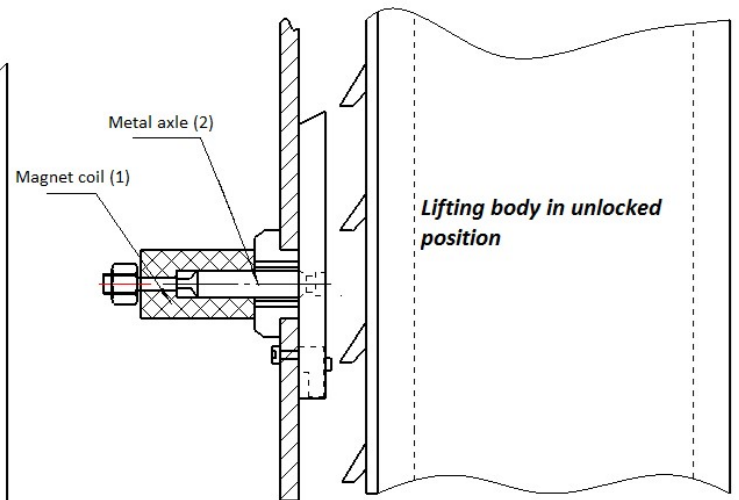

Fig.22
Press the LOWERING-button (3, fig.22), first the lift raises a little bit, then the safety locks open and the pump's magnetic valve opens the hydraulic cylinders. The lowering of the lift is delayed for about 1 to 2 seconds by the magnetic valve, at the same time the engine is stopped. Now the vehicle lowers to the safe height.
During lowering the Magnet coil (1) is powered, this retracts the Metal axle (2) and Lock plate (4) (fig.22). The angled mounting plates of the Lifting body (6) can now move past the Lock plate (4) without being blocked. The lift can now be lowered to the desired height.